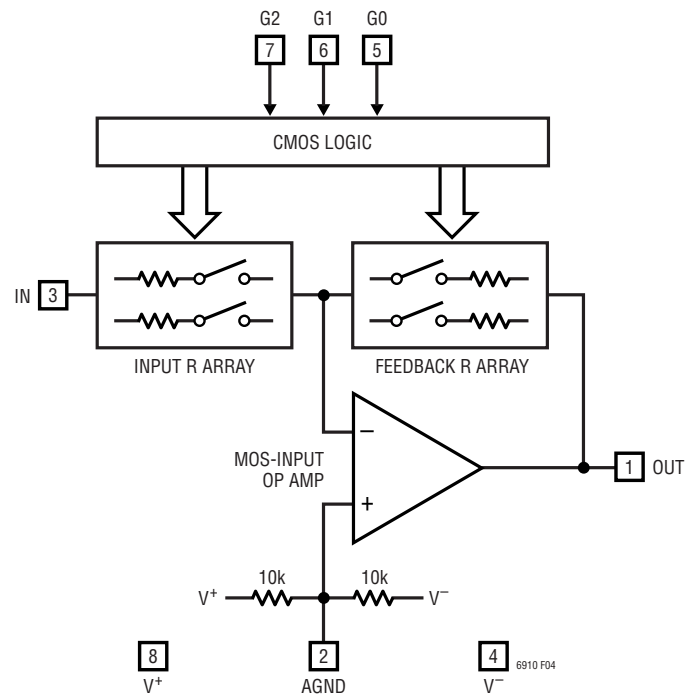
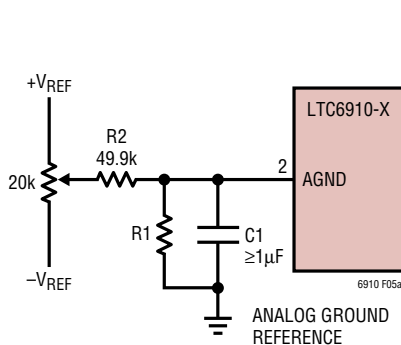

Figure 4. Block Diagram
Figure 5a. Offset Nulling (Dual Supplies)
**AGND (Pin 2):** Analog Ground. The AGND pin is at the midpoint of an internal resistive voltage divider, developing a potential halfway between the  $V^+$  and  $V^-$  pins, with an equivalent series resistance to the pin of nominally 5k $\Omega$  (Figure 4). AGND is also the noninverting input of the internal op amp, which makes it the ground reference voltage for the IN and OUT pins. Because of this, very “clean” grounding is important, including an analog ground plane surrounding the package.
**IN (Pin 3):** Analog Input. The input signal to the amplifier in the LTC6910-X is the voltage difference between the IN and AGND pins. The IN pin connects internally to a digitally controlled resistance whose other end is a current summing point at the same potential as the AGND pin (Figure 4). At unity gain (digital input 001), the value of this input resistance is approximately 10k $\Omega$  and the IN voltage range is rail-to-rail (V+ to V-). At gain settings above unity (digital input 010 or higher), the input resistance falls. Also, the linear input voltage range falls in inverse proportion to gain. (The higher gains are designed to boost lower level signals with good noise performance.) Tables 1, 2, and 3 summarize this behavior. In the “zero” gain state (digital input 000), analog switches disconnect the IN pin internally and this pin presents a very high input resis-
The LTC6910 family are small outline, wideband inverting DC amplifiers whose voltage gain is digitally programmable. Each delivers a choice of eight voltage gains, controlled by the 3-bit digital inputs to the G pins, which accept CMOS logic levels. The gain code is always monotonic; an increase in the 3-bit binary number (G2 G1 G0) causes an increase in the gain. Table 1, Table 2 and Table 3 list the nominal voltage gains for LTC6910-1, LTC6910-2 and LTC6910-3 respectively. Gain control within each amplifier occurs by switching resistors from a matched array in or out of a closed-loop op amp circuit using MOS analog switches (Figure 4). Bandwidth depends on gain setting. Curves in the Typical Performance Characteristics section show measured frequency responses.
Settling time in the CMOS gain-control logic is typically several nanoseconds and faster than the analog signal path. When amplifier gain changes, the limiting timing is analog, not digital, because the effects of digital input changes are observed only through the analog output (Figure 4). The LTC6910-X's logic is static (not latched) and therefore lacks bus timing requirements. However, as with any programmable-gain amplifier, each gain change causes an output transient as the amplifier's output moves,
The electrical tables list DC offset (error) voltage at the inputs of the internal op-amp in Figure 4,  $V_{OS(OA)}$ , which is the source of DC offsets in the LTC6910-X. The tables also show the resulting, gain dependent offset voltage referred to the IN pin,  $V_{OS(IN)}$ . These two measures are related through the feedback/input resistor ratio, which equals the nominal gain-magnitude setting, G:
Offset voltages at any gain setting can be inferred from this relationship. For example, an internal offset  $V_{OS(OA)}$  of 1mV will appear referred to the IN pin as 2mV at a gain setting G of 1, or 1.5mV at a gain setting of 2. At high gains,  $V_{OS(IN)}$  approaches  $V_{OS(OA)}$ . (Offset voltage can be of either polarity; it is a statistical parameter centered on zero.) The MOS input circuitry of the internal op amp in Figure 4 draws negligible input currents (unlike some op amps), so only  $V_{OS(OA)}$  and G affect the overall amplifier's offset.
Because internal op amp offset voltage  $V_{OS(OA)}$  is gain independent as noted above, offset trimming can be readily added at the AGND pin, which drives the noninverting input of the internal op amp. Such a trim shifts the AGND voltage slightly from the system's analog ground reference, where AGND would otherwise connect directly. This is convenient when a low resistance analog ground potential or analog ground reference exists, for the return of a voltage divider as in Figure 5a. When adjusted for zero DC output voltage when the LTC6910-X has zero DC input voltage, this DC nulling will hold at other gain settings also.
Figure 5a shows the basic arrangement for dual-supply applications. A voltage divider (R1 and R2) scales external reference voltages  $+V_{REF}$  and  $-V_{REF}$  to a range equaling or slightly exceeding the approximately  $\pm 10\text{mV}$  op amp offset-voltage range. Resistor R1 is chosen to drop the  $\pm 10\text{mV}$  maximum trim voltage when the potentiometer is set to either end. Thus if  $V_{REF}$  is 5V, R1 should be about  $100\Omega$ . Note also that the two internal  $10\text{k}$  resistors in Figure 4 tend to bias AGND toward the mid-point of  $V^+$  and  $V^-$ . The external voltage divider will swamp this effect if R1 is much less than  $5\text{k}\Omega$ . When considering the effect of the internal  $10\text{k}$  resistors, note that they form a Thévenin equivalent of  $5\text{k}$  in series with an open-circuit voltage at the halfway potential  $(V^+ + V^-)/2$ . (Although tightly matched,
With this trim technique in place, the remaining DC offset sources are drifts with temperature (typically  $6\mu\text{V}/^\circ\text{C}$  referred to  $V_{OS(OA)}$ ), shifts in the LTC6910-X's supply voltage divided by the PSRR factors, supply voltage shifts coupled through the two  $10\text{k}$  internal resistors of Figure 4, and of course any shifts in the reference voltages that supply  $+V_{REF}$  and  $-V_{REF}$  in Figure 5a.
At a gain setting of 10V/V in an LTC6910-1 (digital input 100) and a 250ksps sampling rate in the LTC1864, a 10kHz input signal at 60% of full scale shows a THD of -87dB at the digital output of the ADC. 100kHz input signals under the same conditions produce THD values around -75dB. Noise effects (both random and quantization) in the ADC are divided by the gain of the amplifier when referred to  $V_{IN}$  in Figure 4. Because of this, the circuit can acquire a signal that is 40dB down from full scale of 5VP-P with an SNR of over 70dB. Such performance from an ADC alone (70 + 40 = 110dB of useful dynamic range at 250ksps), if available, would be far more expensive.